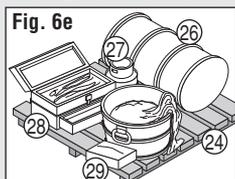

Fig. 6e
- Glue the Barrel ⑳, Canister ㉑, Toolbox ㉒, and Washtub ㉓ onto Pallet ㉔ (Fig. 6e).